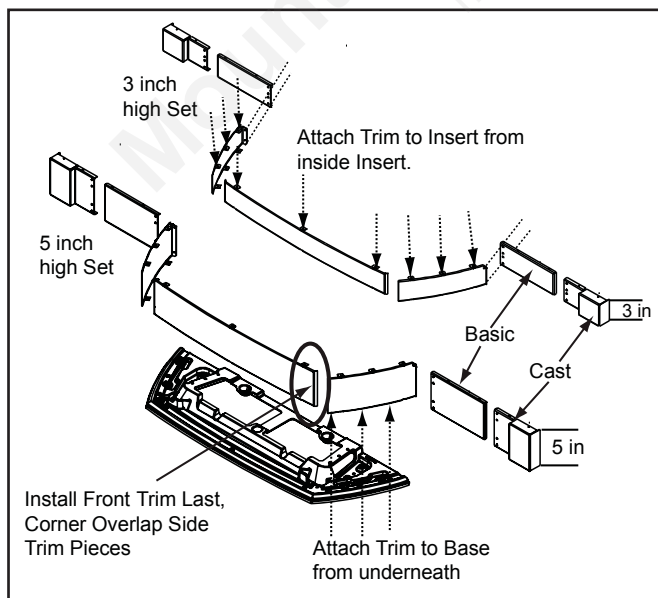

Figure 21.2
4. Lay the cast bottom face up. Attach the 2 sides **FIRST** and then the front piece. **Figure 21.2.**